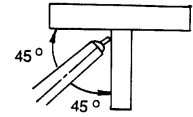

Figure 2.17
3. The electrode should be positioned at a 45° work angle and a 10° to 15° drag angle to perform the weld. (See Figures 2.17 and 2.18.)